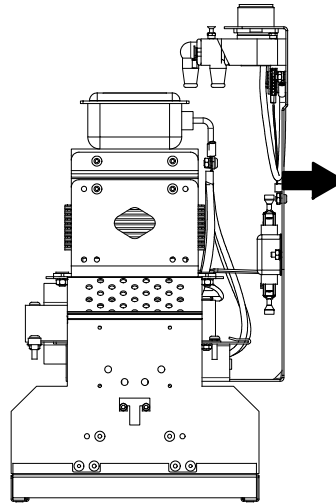

Figure 6-17 Removing the Transformer Bracket (External Blower Version Shown)
5. See Figure 6-17. Pull the the transformer bracket out of the waveguide assembly far enough out to access the wiring connections.